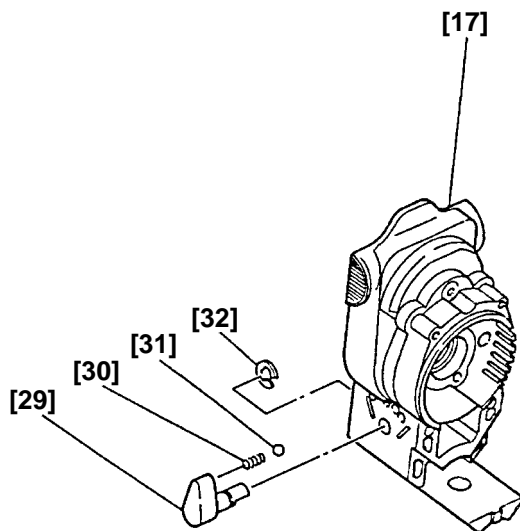

Fig. 10
(9) Disassembly of the Change Knob [29] from the Gear Cover [17] (Fig. 10)